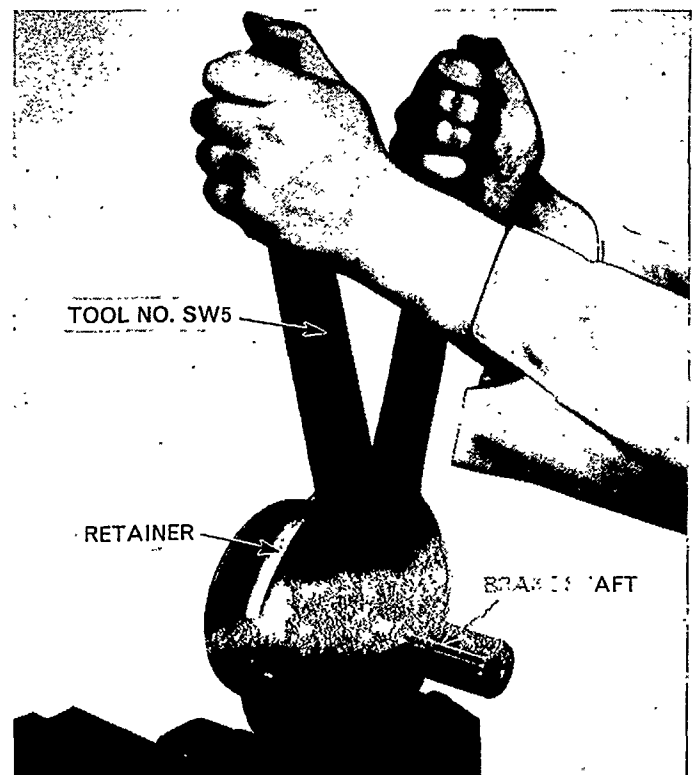

Figure 73
8. Remove the locknut, locking washer and adjusting nut from the handbrake shaft. It will be necessary to use wrench Tool No. SW 5 to remove the nuts, Figure 73.